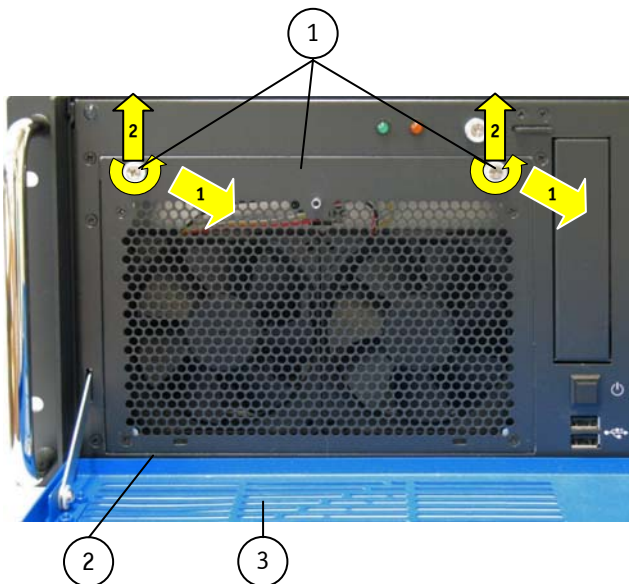
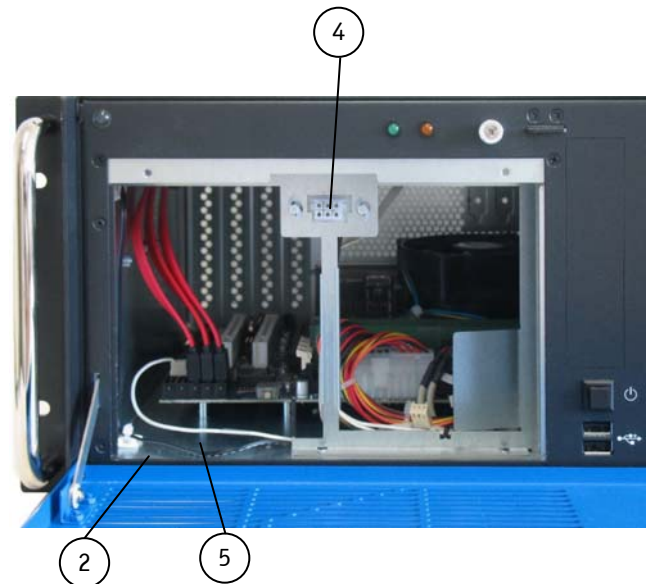
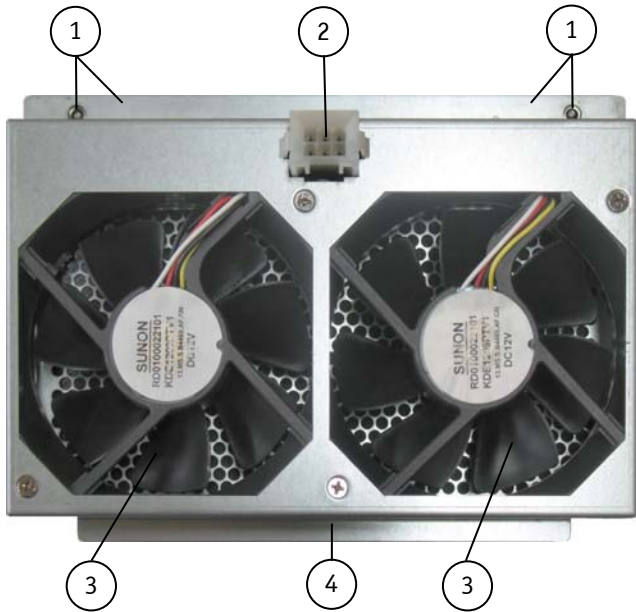
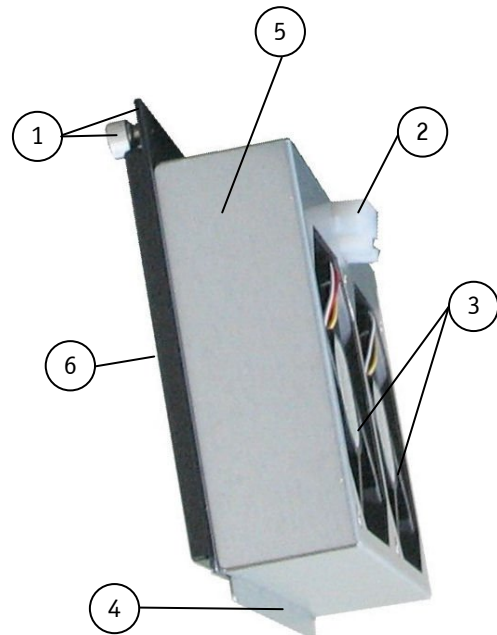

Fig. 40: Detail: Fan slide-in module without filter mat holder
Fig. 41: Detail: Fan compartment (without fan slide-in module)
Fig. 42: Inner sider of the fan slide-in module
Fig. 43: Fan slide-in module with inserted filter mat
2. Loosen the two knurled screws of the fan slide-in module (Fig. 40, pos 1)
3. Pull the fan slide-in module out of the cabinet using the knurled screws to disconnect it from the internal fan control socket (Fig. 41, pos. 4).
4. Lift the fan slide-in module as shown (Fig. 40, pos. 2) out of the fan compartment (see Fig. 41).
**Legend for Fig. 40 and Fig. 41:**
**Legend for Fig. 42 and Fig. 43:**
6. Install the filter mat holder (put aside in step 1) with the filter mat to the front side of the fan slide-in module, as described in chapter 10.1 "Cleaning the Filter Mat" (step 7 and step 8; see also Fig. 43).
7. Insert the positioning latch (Fig. 42 and Fig. 43, pos. 4) into the fan compartment (Fig. 41, pos. 5) behind the fixing plate (Fig. 40 and Fig. 41, pos. 2).
8. After the positioning latch (Fig. 42 and Fig. 43, pos. 4) is properly inserted into the fan compartment, push the upper part of the fan slide-in module into the fan compartment until the fan control connector (Fig. 42, pos. 2) is firmly inserted into the socket (Fig. 41, pos. 4).